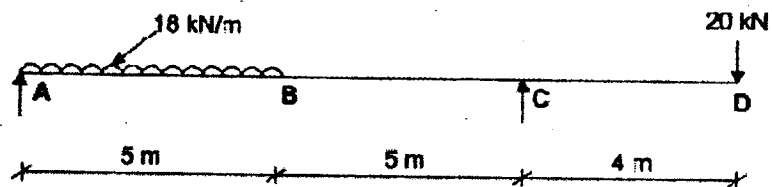

Figure 15
- Q-6** a Derive relationship between shear force and bending moment. (03)
- b Draw S.F and B.M. diagram for cantilever beam of having UDL of intensity 'w' kN/m over (02)
- c Draw shear force and bending moment diagram of beam shown in Figure 15. Locate point of (09)